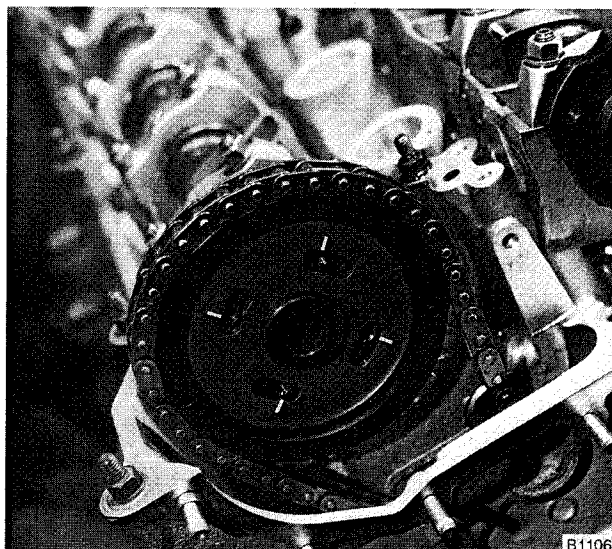

Fig. 43. Primary chain sprocket correctly aligned to exhaust camshaft. Camshaft holes should be on left most side of sprocket holes.
9. Mount primary chain sprocket to primary chain so that arrow on sprocket faces up. Mount sprocket to exhaust camshaft so tapped holes in camshaft are on left most side of elongated holes in sprocket. See Fig. 43.